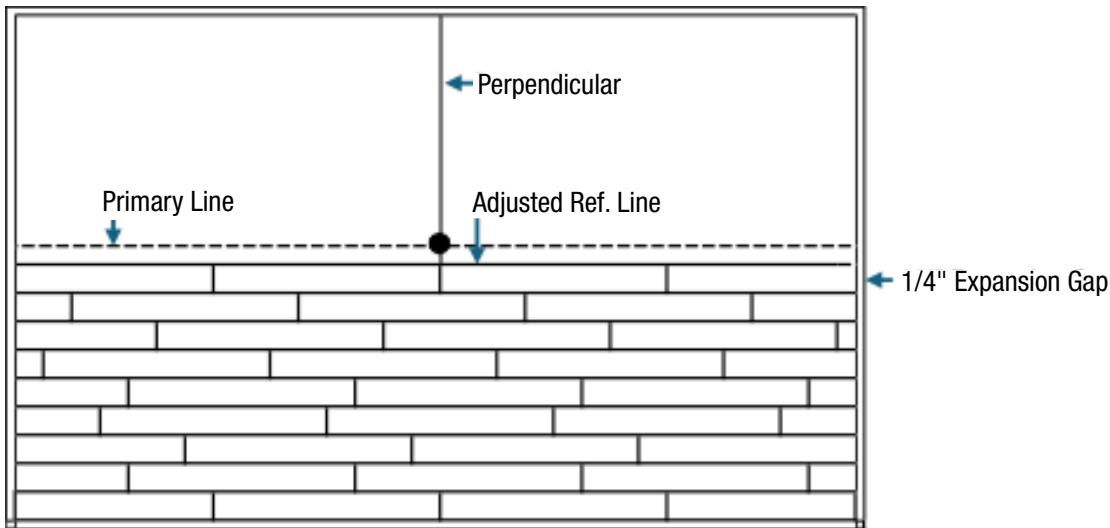

Figure 6
- For plank layout, stagger end joints by at least 6–12 inches for a natural look and avoid aligning ends of adjacent rows. It is recommended that boarders at the ends of rows be 6 inches or longer. See Figure 6.